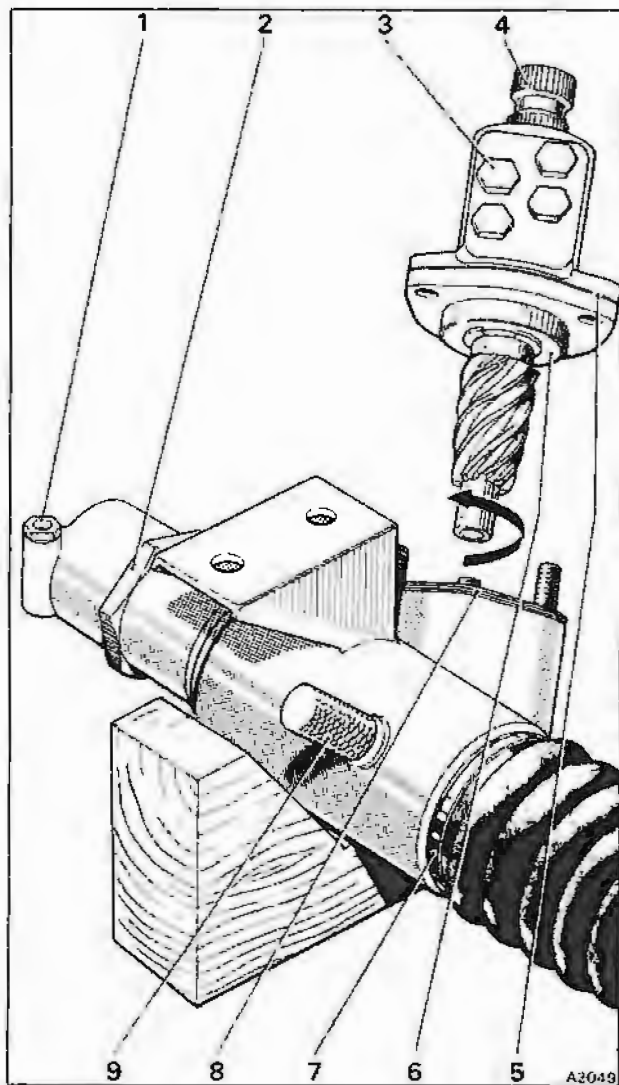

Fig. N2-5 Pinion and spool valve removal
4. Unscrew the nuts, and release the pinion and valve housing assembly by gripping the pinion spline with one hand, and keeping the two halves of the valve housing together with the other hand. With a turning movement lift the assembly **using the splined shaft**, clear of the pinion position (see fig. N2-5).